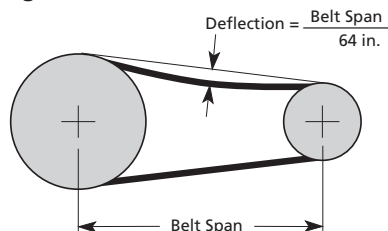

Figure 28 — Belt Tension
3. Check the alignment by using a straight edge across both sheaves, see Figure 28.